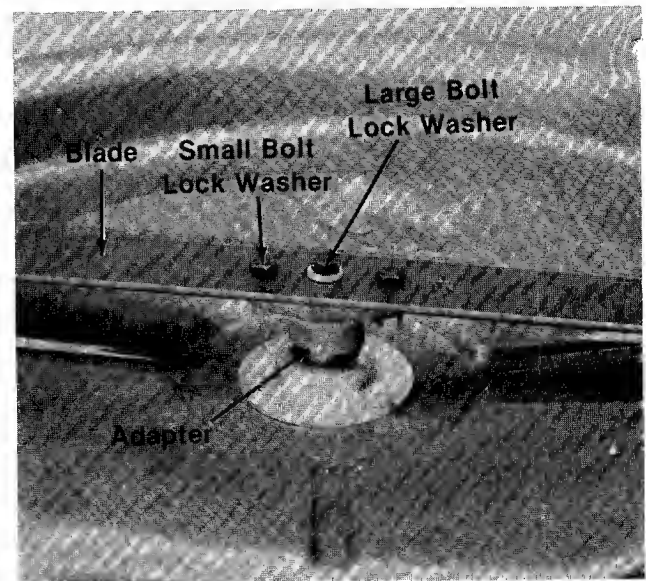

FIGURE 38.
1. Remove large bolt and lock washer which holds the blade and adapter to the blade spindle. See figure 38.